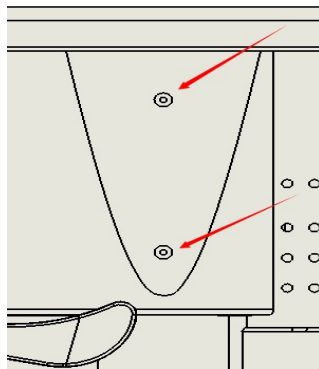

Figure 6
Step 7 First need the machine head positioning. Light shaking machine head, by positioning holes on the column can be seen through the opposite side of the head positioning hole (see opposite the light coming through, if you do not see the light coming through, you need to rotate the head, and slowly positioning until the light came through). . Keeping the head does not move, respectively, with two tapered head screws M5 * 8 screwed to the lower head positioning holes, one on each side, with a tapered head screws 2 M5 * 12 head is screwed to the upper positioning holes, one on each side It can be a little tight. Figure 6